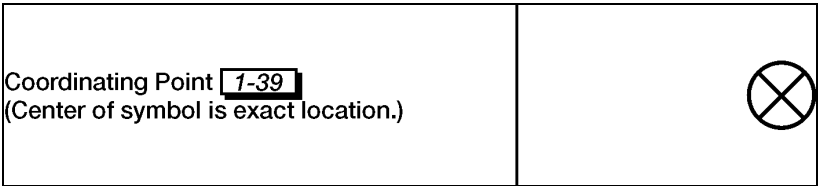

Figure 071-332-5000-23. Coordinating Point
(5) Delay lines (DLs). These indicate where a succeeding delay position is located. Delay positions (other than initial) are drawn the same, except that the letter abbreviation is along the line, and none are placed to the flanks at the coordinating points.
(6) Coordinating points.
- (c) The symbol for a coordinating point is shown by a circle with an "X" centered in it (figure 071-332-5000-23). The symbol is labeled as appropriate.
- (7) Checkpoints. Checkpoints are shown graphically by a number, letter, or code word inside an upright rectangle with a pointed bottom (figure 071-332-5000-24). They are easily recognizable terrain features or objects, such as crossroads, churches, lone buildings, stream junctions, hills, bridges, and railroad crossings. They may be selected throughout the area of operation. By reference to these points, the subordinate commander may rapidly and accurately report his location; or the higher commander may designate objectives, boundaries, assembly areas, phase lines, and so forth, to his subordinate commanders.